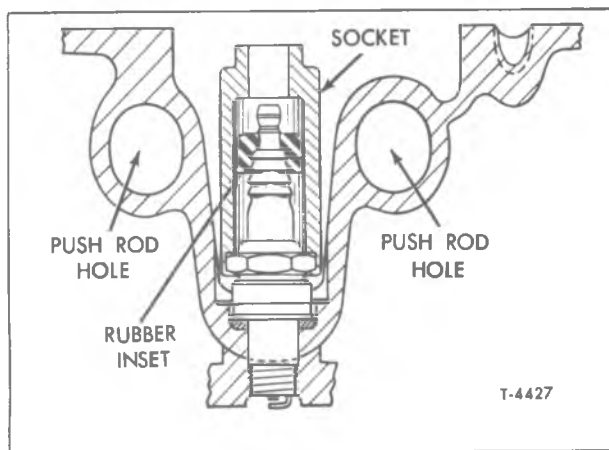

Figure 14—Wrench Socket Installed on Plug (Typical)
2. Using a suitable spark plug wrench socket, remove the spark plug (fig. 14).